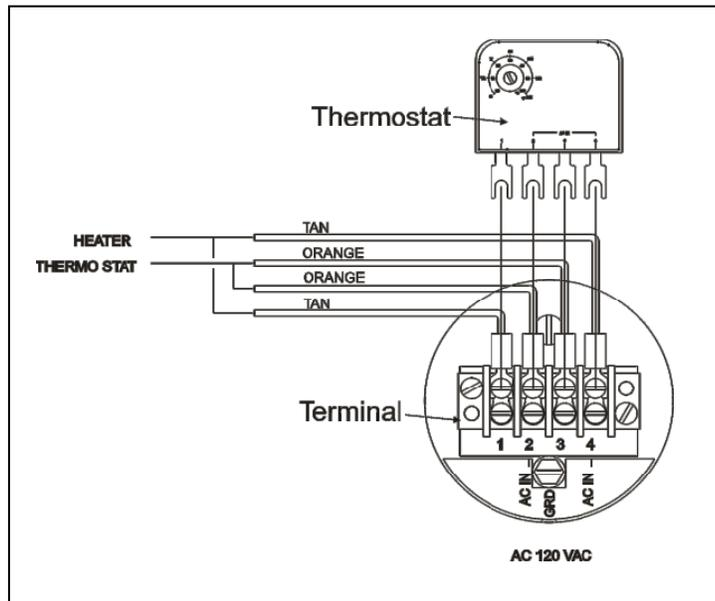

Figure 4
- 2.2.5 Connect the appropriate electrical wiring to the terminal strip in the terminal housing (see Figure 4).